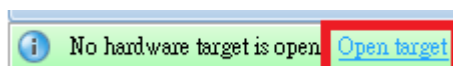

Figure 27
4.2 點選 Open target 如 Figure 27，再選擇 Open New Target